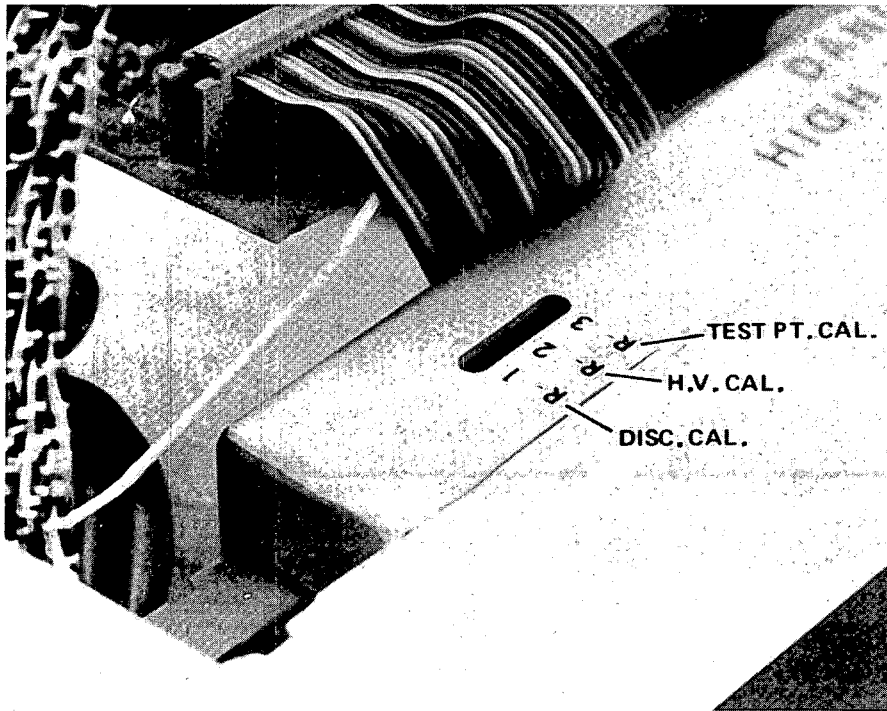

Fig. 18.
2. Adjust R1, the forward potentiometer on the HEC-100 high-voltage supply board, for  $1.500 \text{ V} \pm 0.001 \text{ V}$  at the DISC V test point (Fig. 18).
6. Observe amplifier pulse level. If it has changed, adjust R2 on high-voltage board (center potentiometer, Fig. 18) to bring the level back to 6 V. Switch the high-voltage cable back and forth from the HEC-100 high-voltage output to the Los Alamos high-voltage module output several times, observing an amplifier test point and adjusting R2 until no gain change is seen. Final high-voltage connection should be from HEC-100 internal supply.
8. Adjust R3 on high-voltage board (rear potentiometer, Fig. 18) to give a reading of  $1.500 \text{ V} \pm 0.001 \text{ V}$  on the DVM.
6. Adjust R3, on high-voltage board (rear potentiometer, Fig. 18) for a DVM reading of  $1.500 \text{ V} \pm 0.001 \text{ V}$ .
8. Adjust R2 [middle potentiometer, HEC-100 HV board, (Fig. 18)] until DVM again reads  $1.500 \text{ V} \pm 0.001 \text{ V}$ .